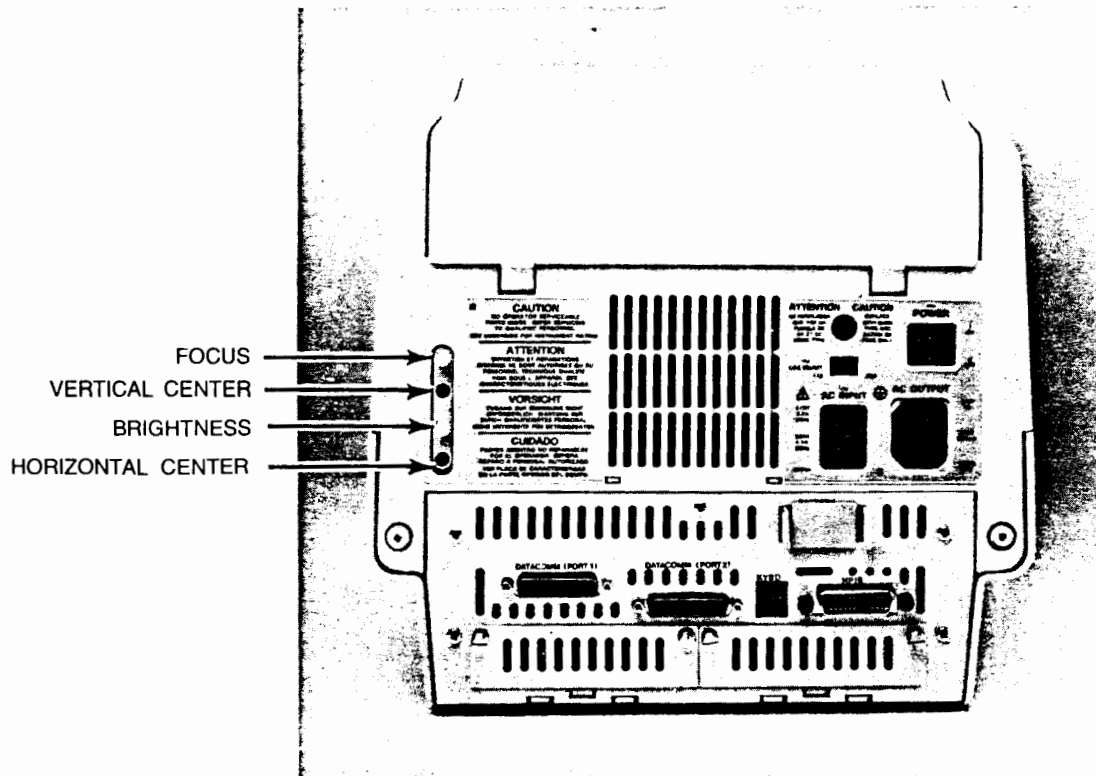
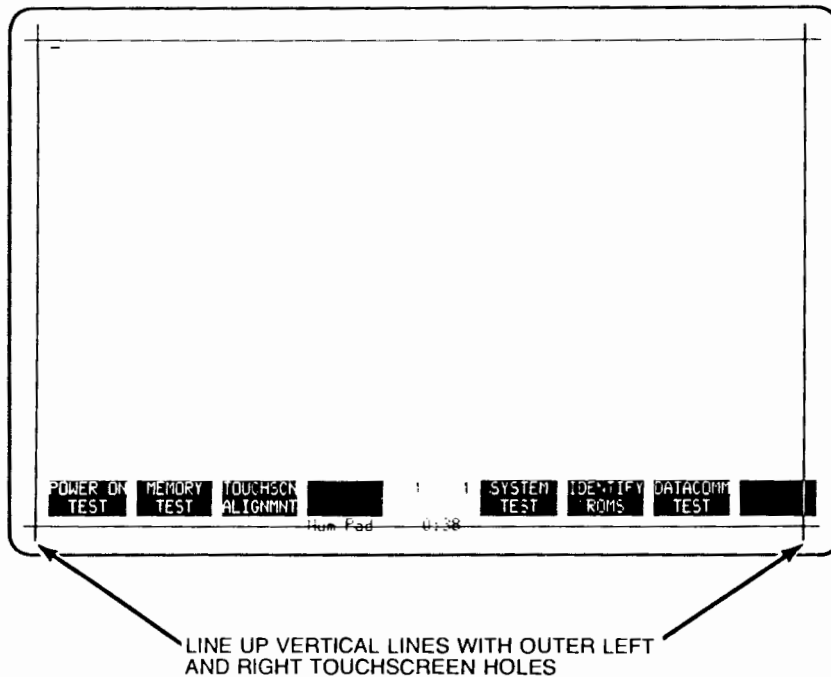
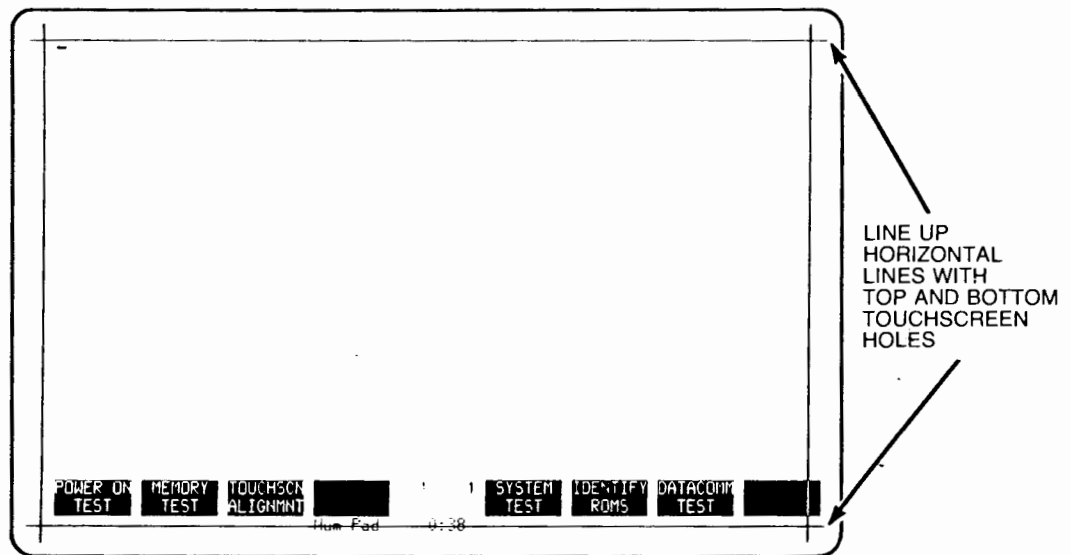

Figure 7-1. HP 150 Rear View
Figure 7-3. Horizontal Display Alignment
Figure 7-4. Vertical Display Alignment
3. Using the FOCUS adjustment, located at the rear of the HP 150 (see Figure 7-1), adjust the focus of the display.
4. Using the BRIGHT adjustment, located at the rear of the HP 150 (see Figure 7-1), adjust the display to desired brightness.
5. Using the alignment tool to turn the HORIZ. CENTER adjustment at the rear of the unit (see Figure 7-1), center the display horizontally on the screen. Do this by lining up the outer left and right hand vertical grid lines with the outer left and right hand Touchscreen holes (see figure 7-3).
6. Using the alignment tool to turn the VERT. CENTER adjustment at the rear of the unit (see Figure 7-1), center the display vertically on the screen. Do this by lining up the top and bottom horizontal grid lines with the top and bottom Touchscreen holes (see figure 7-4).